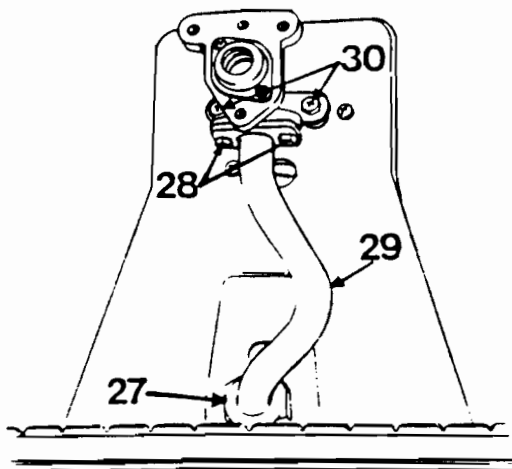

FIG. 8
Release union connection (27) Fig. 8.
Remove two screws (28) Fig. 8.
Remove two screws (30) Fig. 8. and lift out main gas valve.